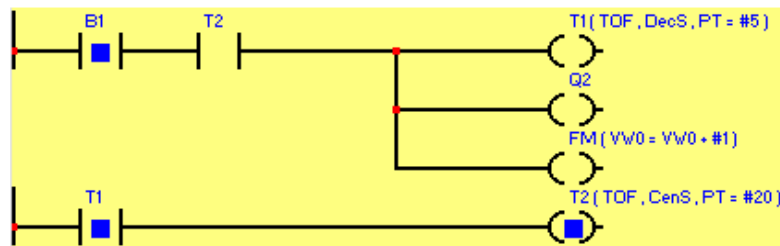
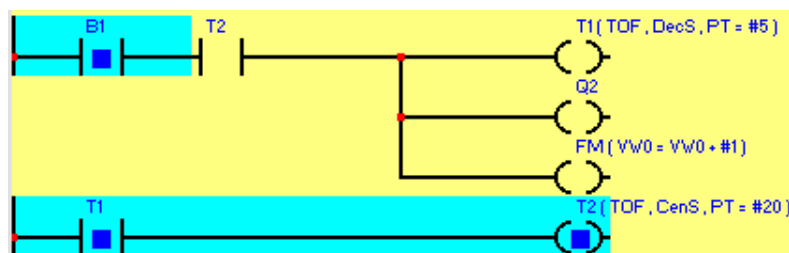

Figure 6.14: option “Highlight active lines” not selected.
Figure 6.15: option “Highlight active lines” selected.
- o If this option is chosen also the connections following active contacts and coils are shown. The figures (Figure 6.14, Figure 6.15) show the same portion of the diagram in the two cases.